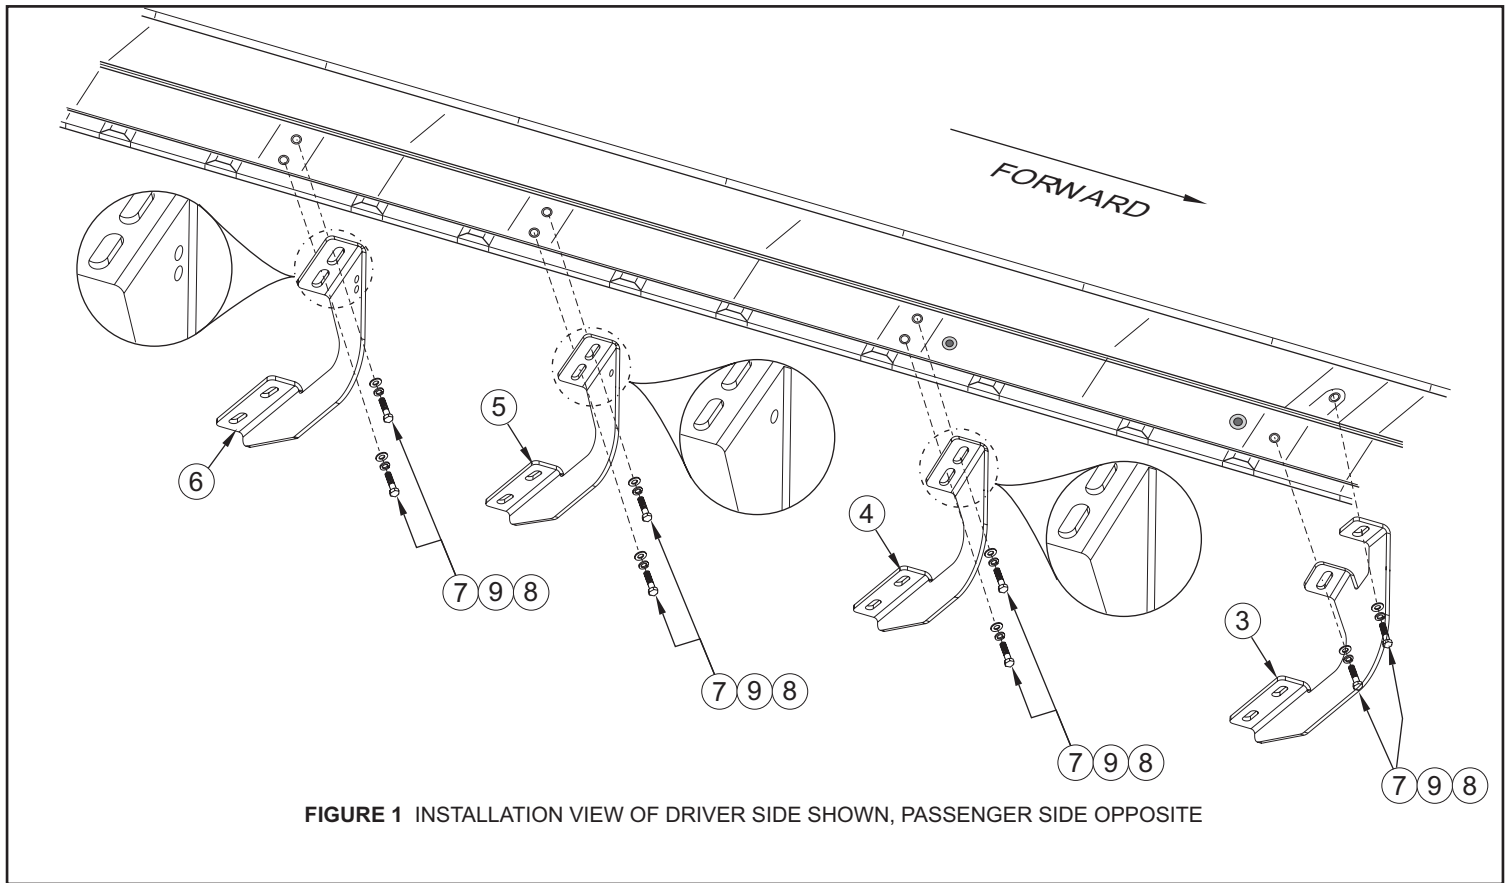

FIGURE 1 INSTALLATION VIEW OF DRIVER SIDE SHOWN, PASSENGER SIDE OPPOSITE
- STEP 2. Determine front, front center, rear center and rear brackets. Rear/center bracket has 1 identification hole and rear bracket has 2 identification holes. **SEE FIGURE 1.**
- STEP 3. Attach drivers side brackets to underside of body panel using two M8 1.25 x 30mm hex head bolts, 3/8" flat washers, and 3/8" lock washers per bracket. Hand tighten. **SEE FIGURE 1.**